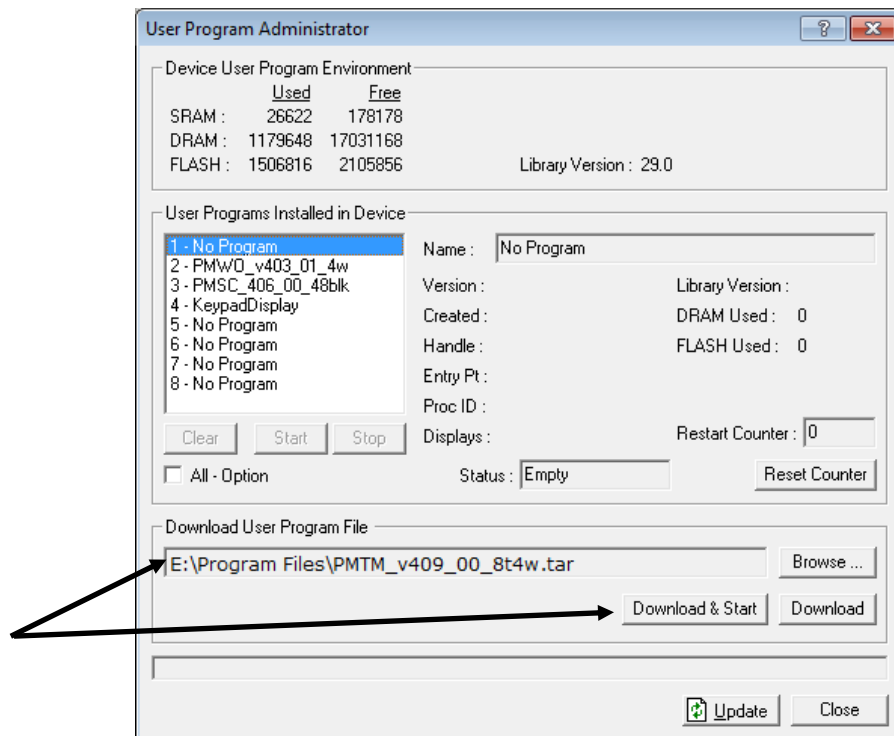

Figure 2-7. User Program Administrator
- Click **Open** to select the program file. The User Program Administrator screen displays. As shown in Figure 2-7, note that the Download User Program File frame identifies the selected program and that the **Download & Start** button is active: